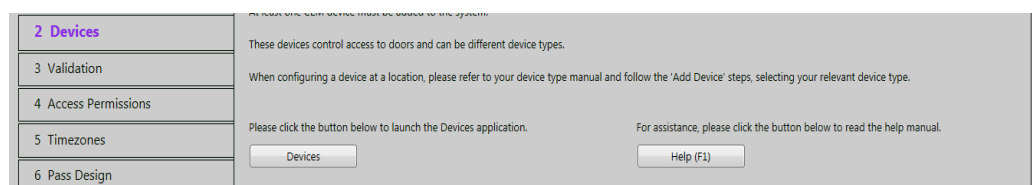

Figure 3 Example screen capture of an application screen in the wizard
2. To open the application, click the button with the application name. In the example show, in Figure 3, Devices is the application.